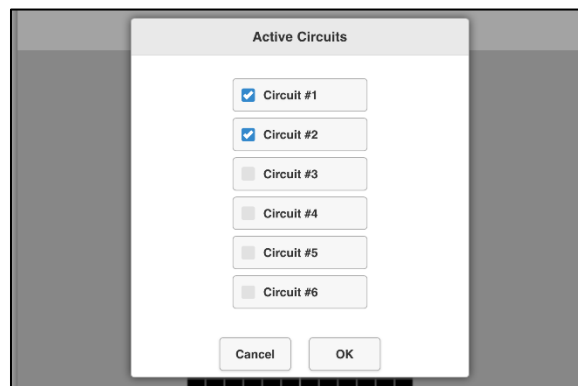

Figure 5-21: Mark Circuits Active
4. This will bring up a panel listing the six circuits with a checkbox beside each one (Figure 5-21). Tapping the relevant checkbox, to mark each circuit active (checked) or inactive (not checked).